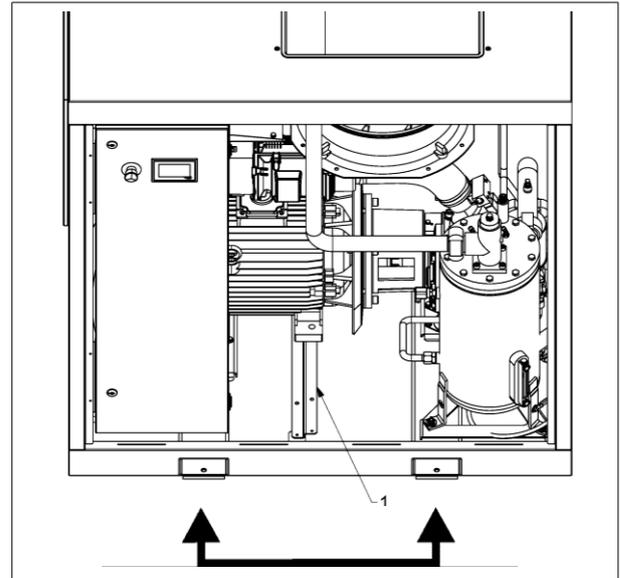

Fig. 6
- Keep the distance between the forks (see Fig. 6) and their length in mind when transporting the compressor.